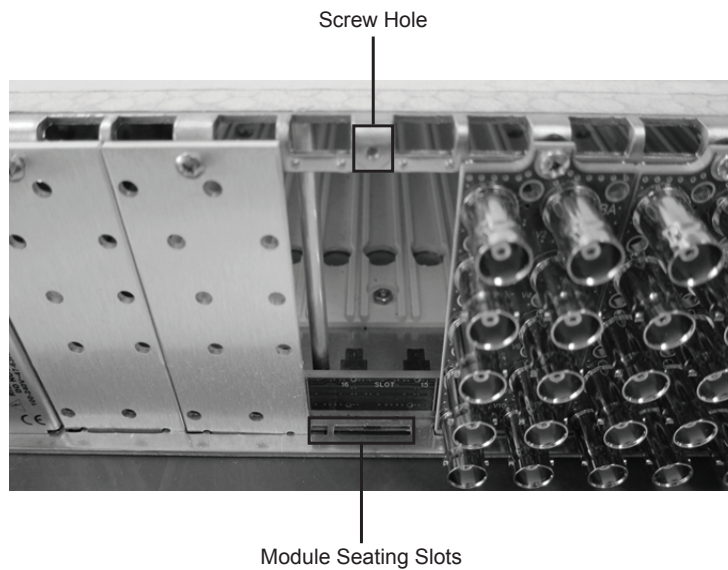

Figure 2.1 Rear Module Installation in an openGear Frame (UDA-8705A not shown)
3. Install the bottom of the rear module in the **Module Seating Slot** at the base of the frame’s back plane. (**Figure 2.1**)